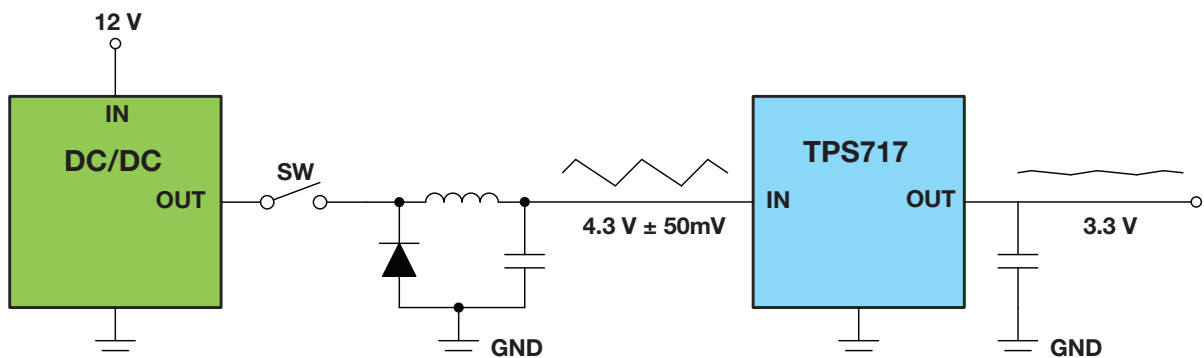

Figure 1: Using an LDO to filter switching noise.
**Figure 1** shows a DC/DC converter regulating 4.3V from a 12V rail. It's followed by the **TPS717**, a high-PSRR LDO, regulating a 3.3V rail. The ripple generated from switching amounts to  $\pm 50\text{mV}$  on the 4.3V rail. The PSRR of the LDO will determine the amount of ripple remaining at the output of the TPS717.